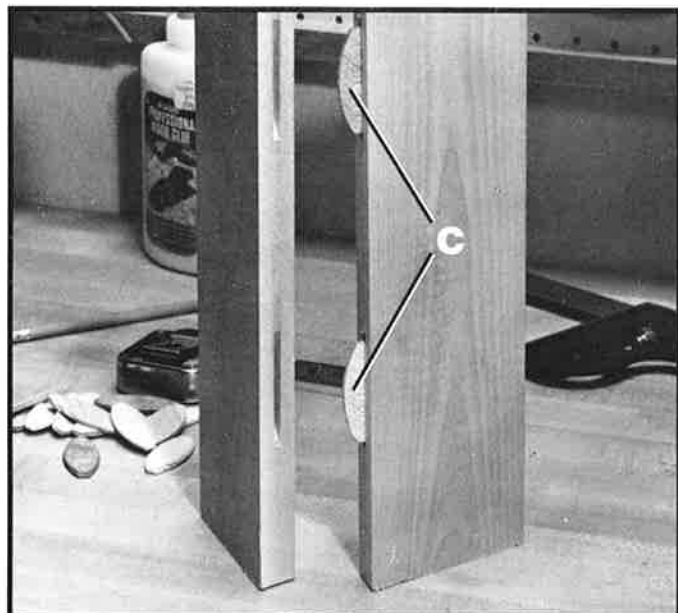

Fig. 38
3. Apply glue to the inside of biscuit slots and insert biscuits (C) into two of the slots as shown in Fig. 38.